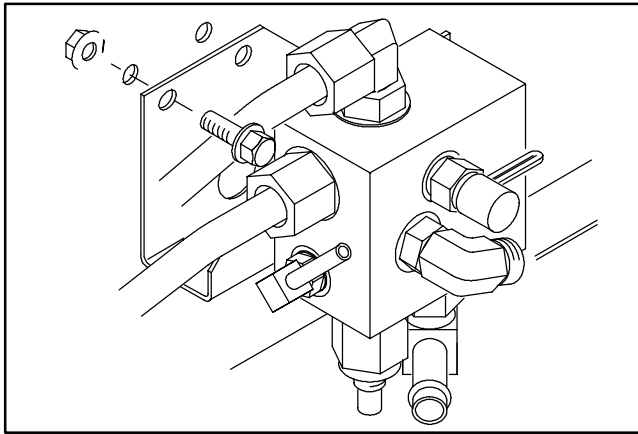

Figure 11
16. Using lower set of holes in right side frame member, mount manifold bracket with (2) 5/16–18 x 5/8" lg. flange head capscrews and locknuts (Fig. 11).